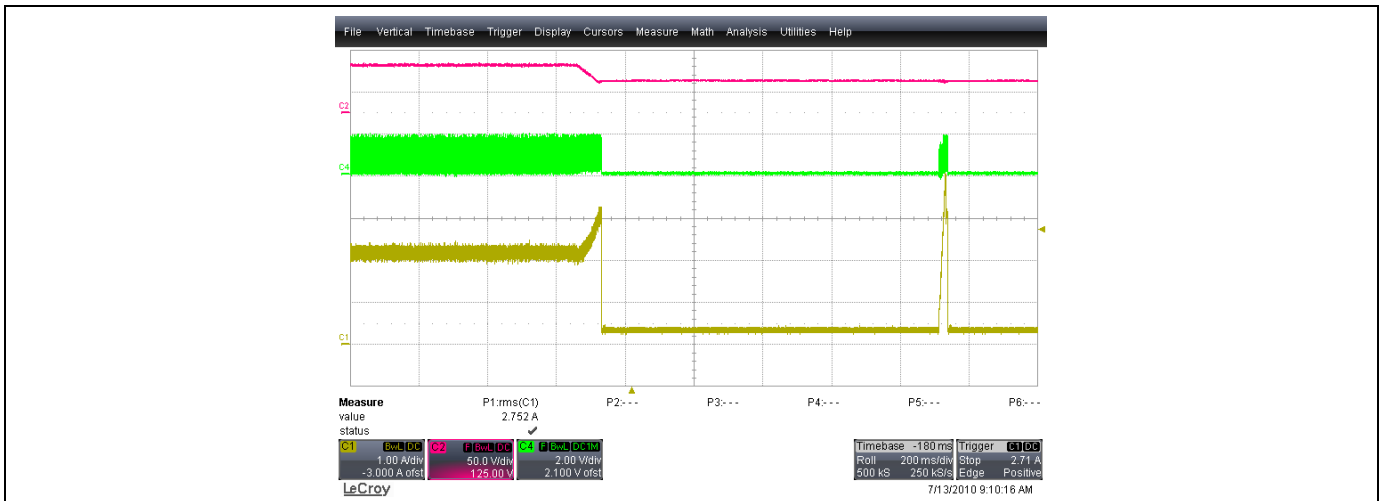

Figure 25 - Accurate CS1 OCP (limit set at 2.76A, re-enable after 1 sec if flag=0)
- A. **CS1 Accurate OCP:** Figure 25 shows the CS1 accurate OCP flag and a reenable after 1 second